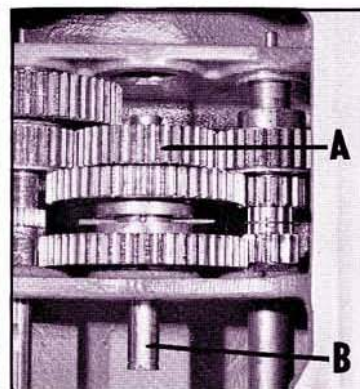

Fig. 26
8. Place gear (A) Fig. 26, in position as shown, and drive shaft (B) up through gear (A).